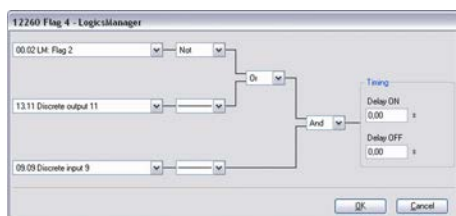

Fig. 198: LogicsManager function "Flag 4"
5. ➤ Configure the LogicsManager function "Flag 4" as shown in (Fig. 198).